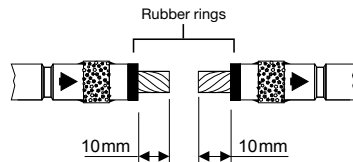

Fig. 1.1 (wire with diameter 8.5 mm only)
- 1.1. Cut the diamond wires at either end using a one-handed angle grinder and TYROLIT cut-off wheel 41F Ø 125 x 1.0 mm. Wires with diameters 10-12 mm according to Fig. 1, wires with diameter 8.5 mm according to Fig. 1.1.